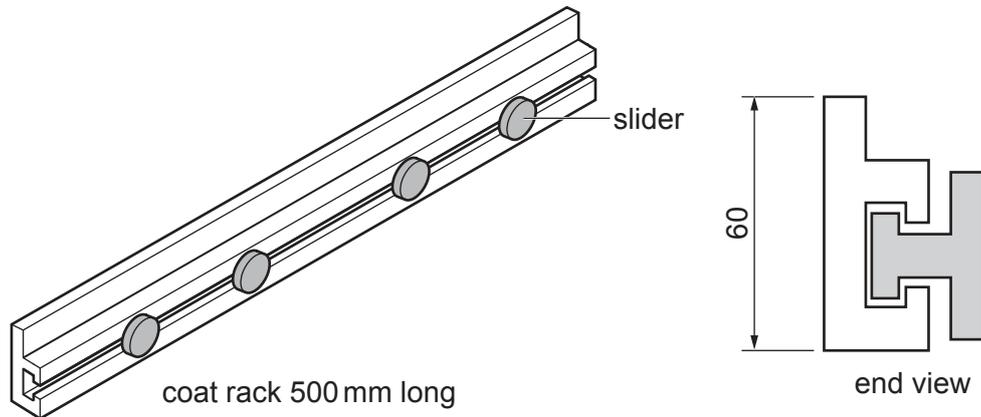

Fig. 7.1
- 7 Fig. 7.1 shows views of a coat rack with adjustable sliders. The coat rack and the sliders are made of plastic and are produced by different methods of manufacture.